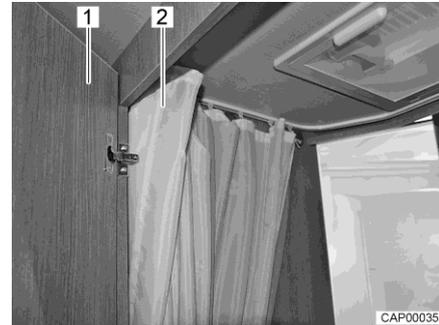
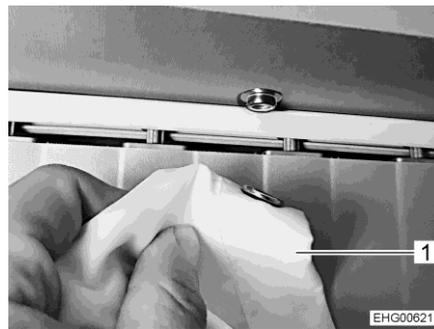
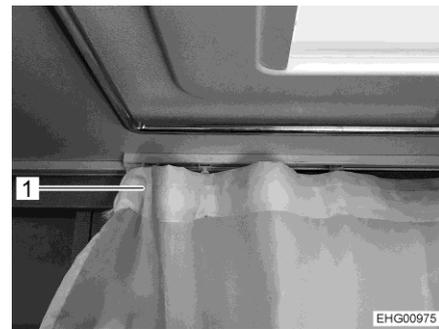

Fig. 129 Toilet compartment with shower
Fig. 130 Shower curtain with snap fasteners
Fig. 131 Shower curtain (Delfin)
- For showering, close the door (Fig. 129,1) and completely close the shower curtain (Fig. 129,2 and Fig. 130,1 or Fig. 131,1) or close it with the snap fasteners so that all walls are protected.